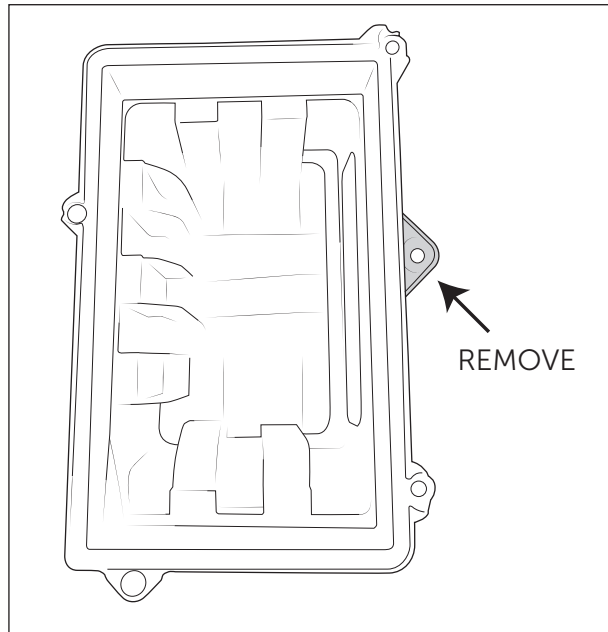

Figure 7
3. Trim off the tab on the lower airbox where the bolt was previously located for the inlet mount. This is no longer used and interferes with the snorkel body (fig. 7).